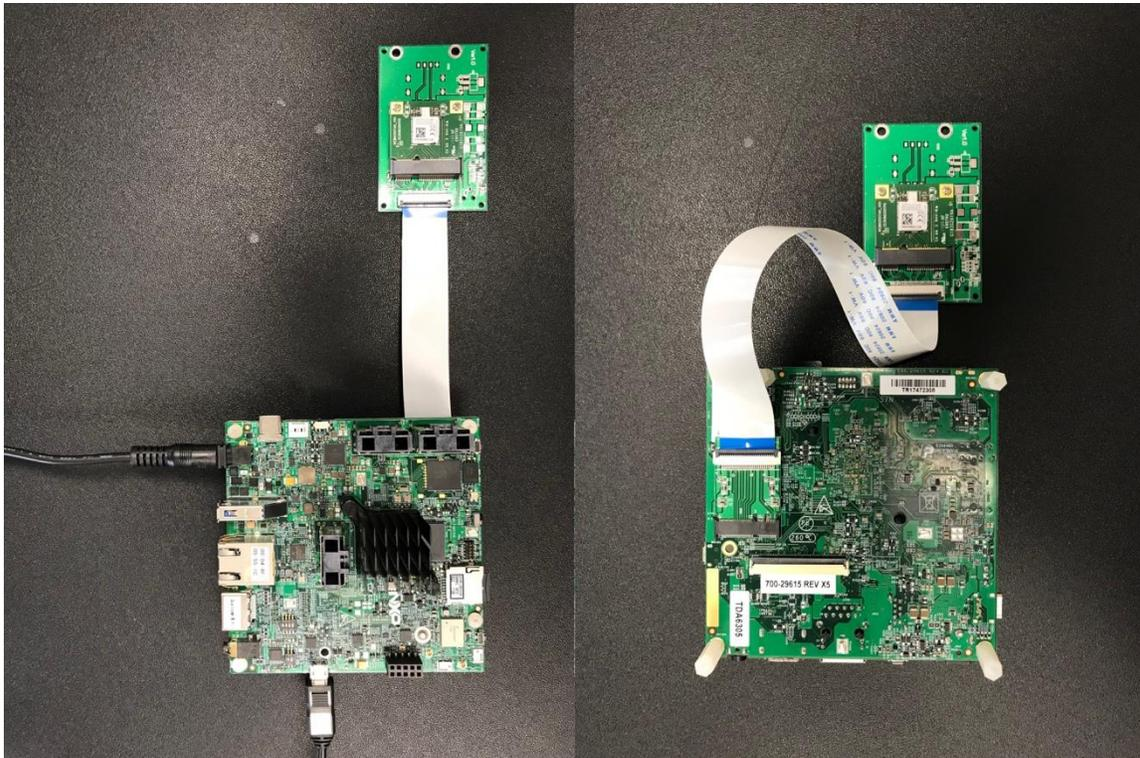

Figure 1 PCEAC2 and i.MX8M Development Board (left: top, right: bottom)
- o The parts must be assembled as show in figure 1
1. Attach SX-PCEAC2 to i.MX8M Development Board with mPCIe to M.2 adapter (See Figure 1).